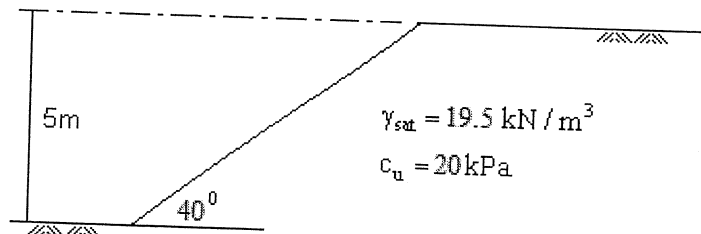

Fig. 2
- D. Fig. 2 shows a proposed highway cut.